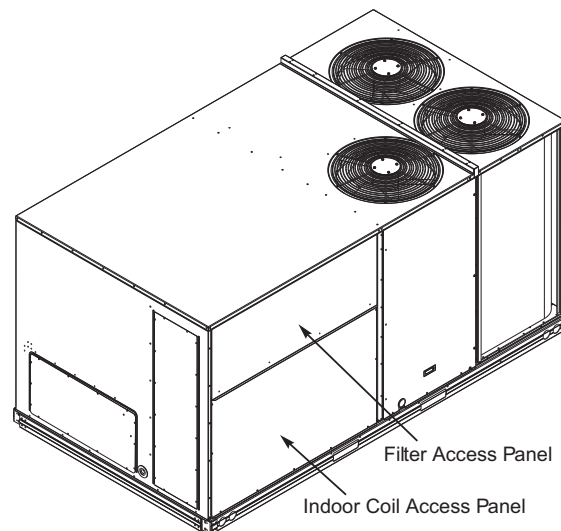

Fig. 18 — Typical Access Panel Locations
1. To gain access to the hood, remove the filter access panel. (See Fig. 18.)